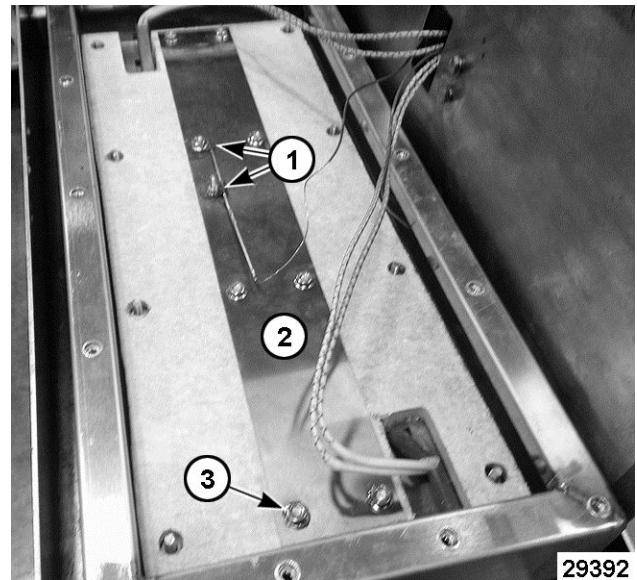

Fig. 28
- 6. Remove 2 mounting nuts and clips (1, Fig. 28) securing high limit capillary bulb to platen insulation retainer (2, Fig. 28).
- 7. Remove the remaining 7 mounting nuts (3, Fig. 28) from platen insulation retainer.